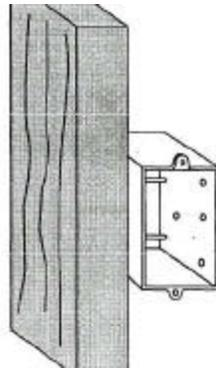

Fig. 7 -- Surface Mounted Fig. 8 -- Stud-mounted Fig. 9 -- Open, unmounted receptacle
- 2) With back-wired receptacles, removing the receptacle from the outlet box can significantly alter the condition of the connections and destroy evidence. *If enough residential wiring is left in the wall to replace a new outlet box (if necessary), dismantling and collecting the entire box is the best approach.* Some of the wall board around the outlet box will likely have to be removed to get full access to the box unless it is a surface mounted box (Figure 7). After removing the nails or screws that hold the box in place, cut the sheathed branch circuit wiring at least 2 inches, preferably 6 inches, from its entry into the box.